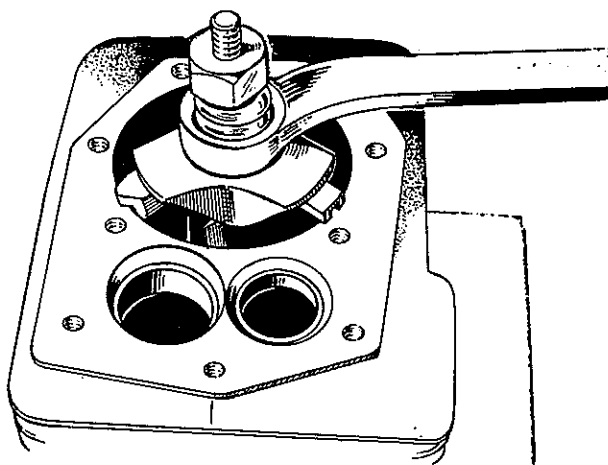

FIGURE 16-1. REMOVING RIDGE FROM CYLINDER
2. Remove ridge from top of each cylinder with a ridge reamer before attempting piston removal, Figure 16-1. Forcing the piston from the cylinder before reaming may cause damage to the piston lands.